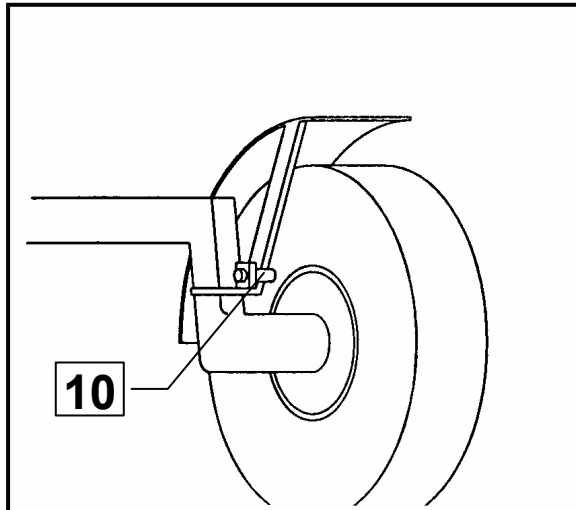

Fig. 6
- The speed sensor (10) must be fitted in such a way that it is as close as possible to the counting ring (6). Trailer sprayers have their own holder on the axle of the sprayer for this purpose. If an add-on sprayer is used, the holder for the speed sensor must be fitted in the outer area of the front tractor axle in such a way that it also turns in steering (fig. 6)